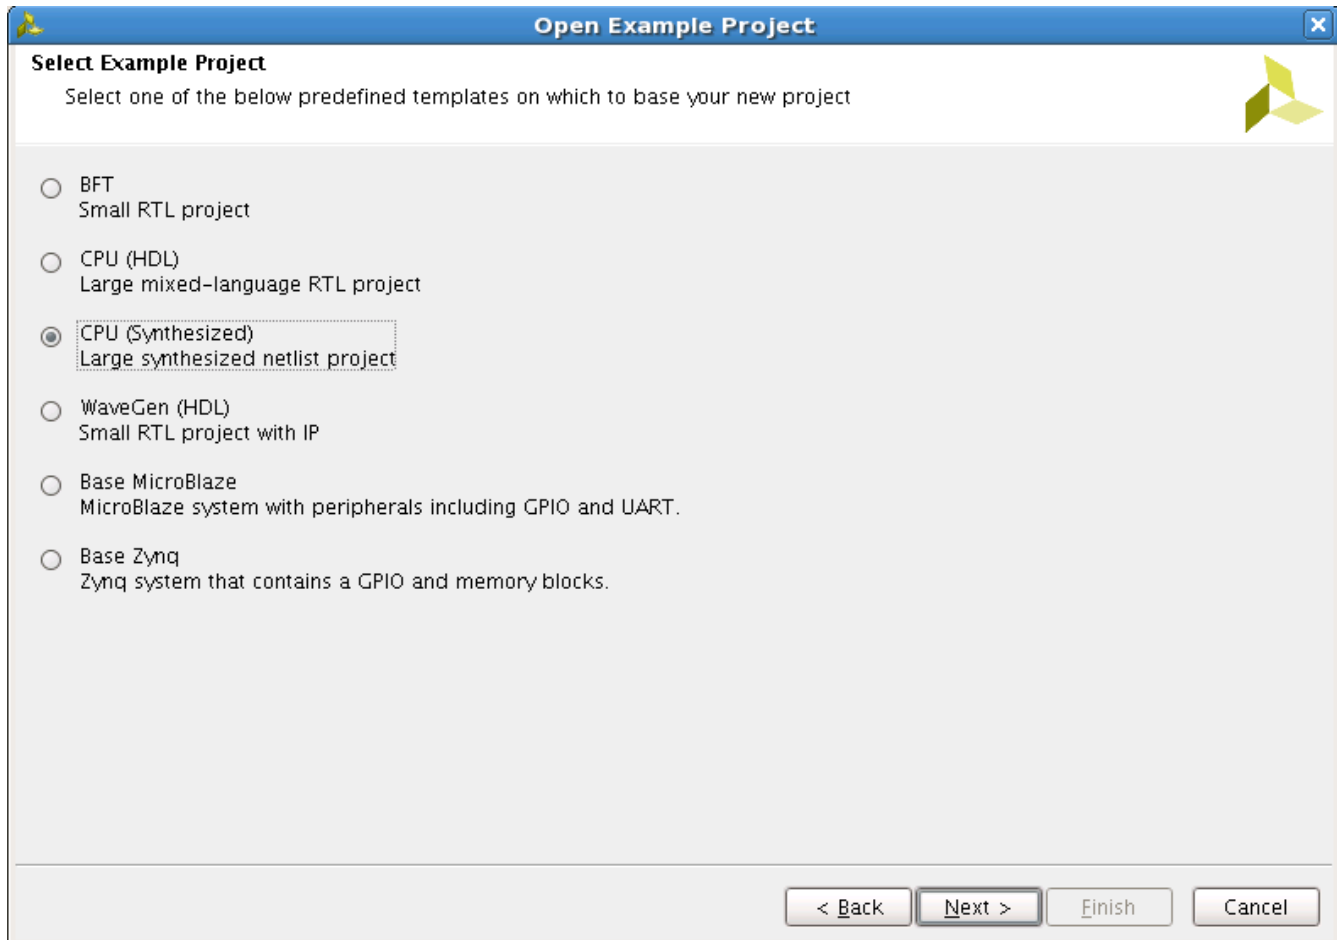

Figure 3: Select Example Project Page of the Open Example Project Wizard
4. The Select Example Project page, select **CPU (Synthesized)** as shown in Figure 3.